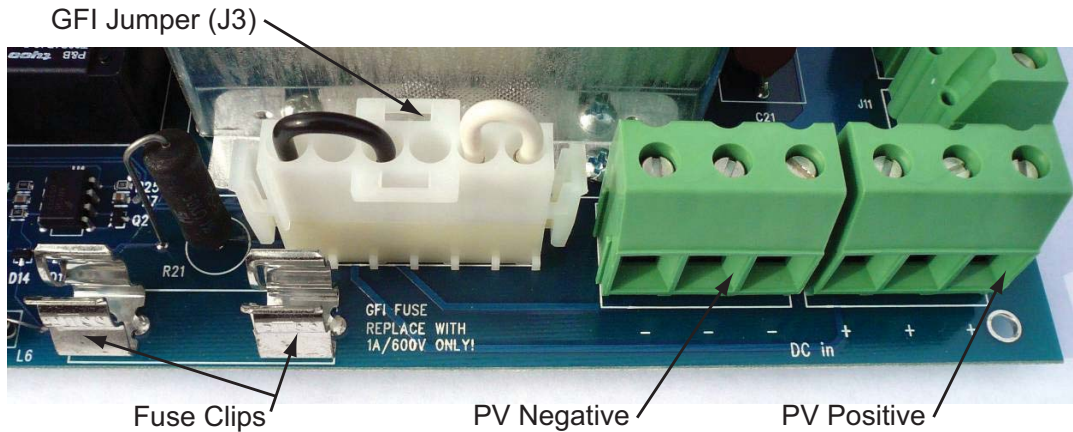

Figure 3-11 Power Board Connections
To wire the DC inputs from the PV array to the inverter (see Figure 3-11):
8. Install the grounding jumper (see Figure 3-11) with the white wire on the right into connector J3 on the power board.
11. Measure the DC voltage potential between the two fuse clips (see Figure 3-11) for the 1A fuse.